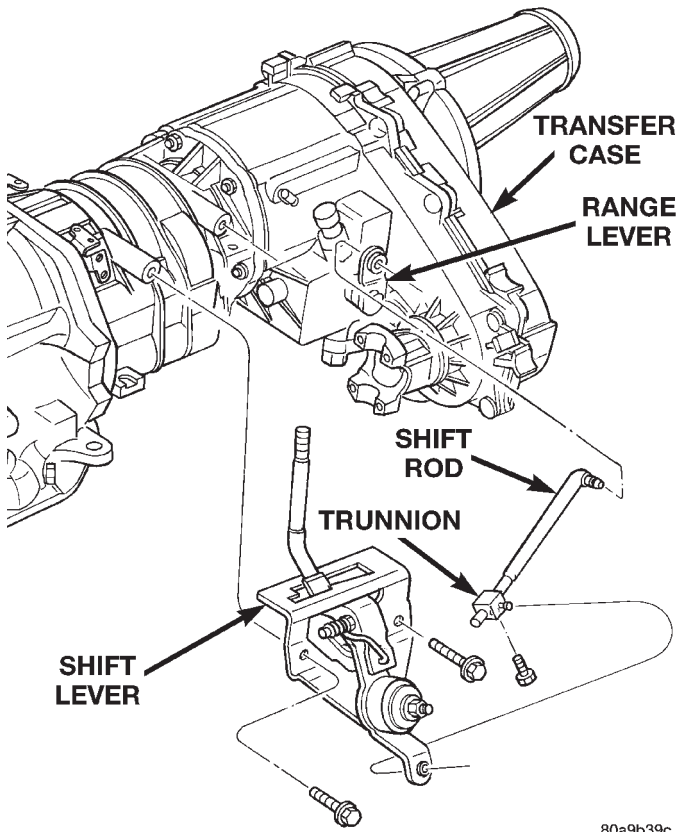

Fig. 3 Shift Lever
- (1) Shift transfer case into 4L.
- (2) Remove transfer case shifter knob cap.
- (3) Remove nut holding shifter knob to shift lever.
- (4) Remove shifter knob.
- (5) Raise and support vehicle.
- (6) Loosen adjusting trunnion lock bolt and slide shift rod out of trunnion (Fig. 3). If rod lacks enough travel to come out of trunnion, push trunnion out of shift lever.
- (7) Remove bolts holding shift lever to transmission.
- (8) Separate shift lever from vehicle.